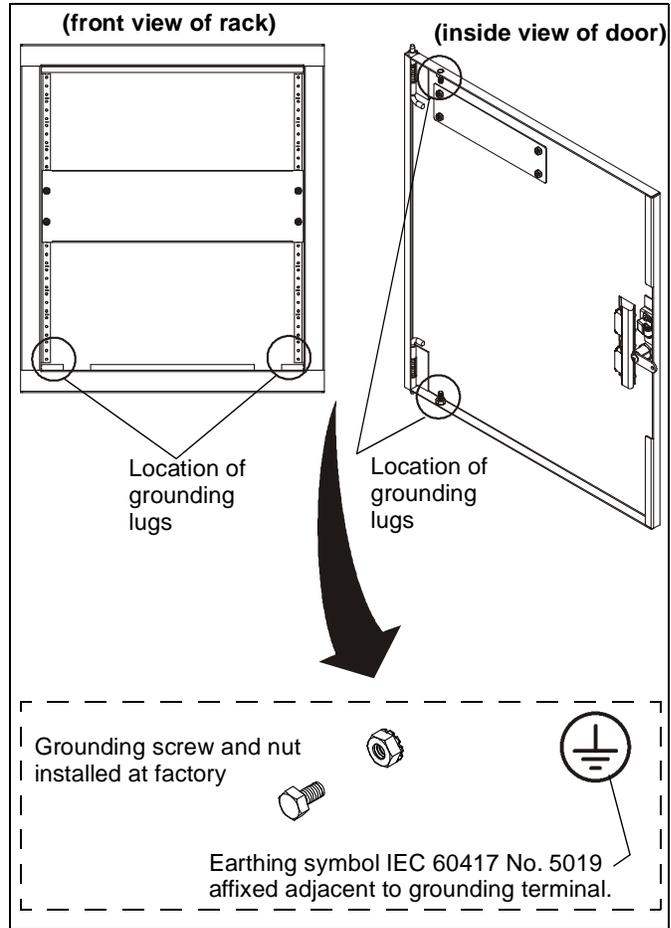

Figure 13
1. Hang rack over top rail of mounting plate. (See Figure 13)
2. Fasten rack from below to mounting plate using two 10-32 x 1/2" security buttonhead screws (K). (See Figure 13)